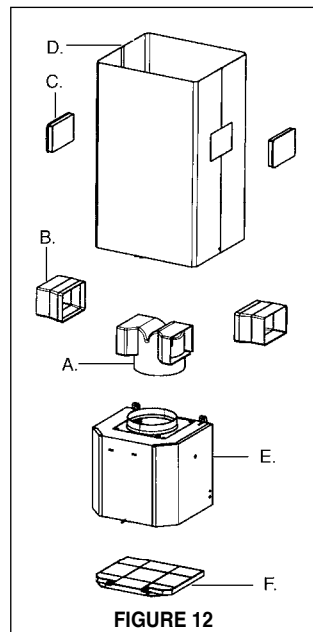
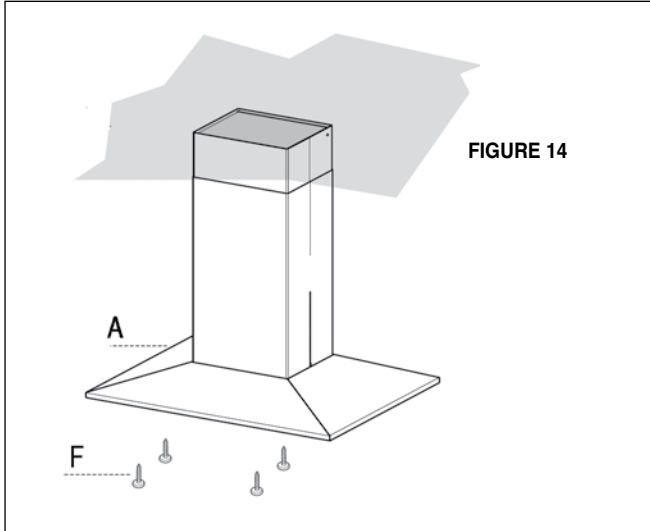
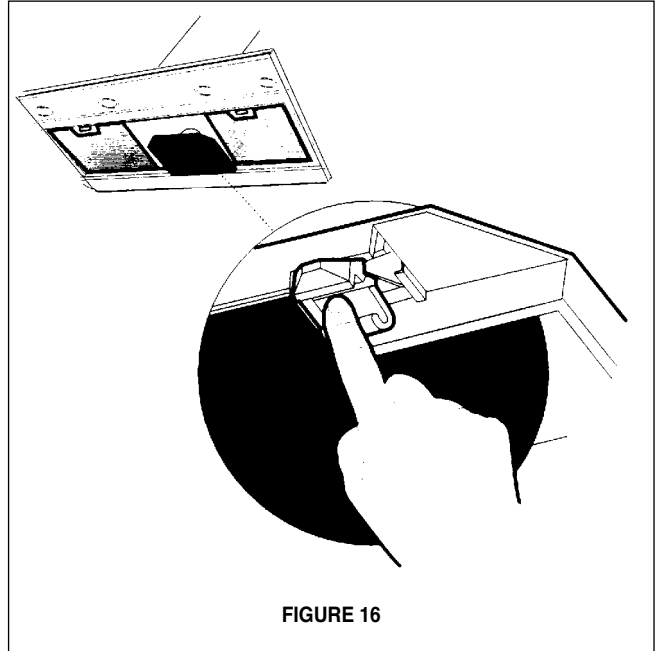

FIGURE 12
FIGURE 14
FIGURE 16
For ductless installations, line up the DUCTLESS DIVERTER EXTENSIONS HORIZONTAL (**B** in **FIGURE 12**) with the holes in the LOWER CHIMNEY COVER (**D** in **FIGURE 12**) and snap in the VENT GRIDS (**C** in **FIGURE 12**).
Ductless installations require a **Ductless Conversion Kit** whose components are pictured in **FIGURE 12**. Do not use the DAMPER (**M** in **FIGURE 1**) for ductless installations. The LOWER CHIMNEY COVER (**B** in **FIGURE 1**) should be discarded and replaced by the new one with holes from the **Ductless Conversion Kit** (**D** in **FIGURE 12**).
As indicated in **FIGURE 12**, place the DUCTLESS DIVERTER (**A**) over the exhaust opening of the EASY CUBE (**E**). Fit the DUCTLESS DIVERTER EXTENSIONS HORIZONTAL (**B**) into the DIVERTER (**A**).
4. From below, attach the CANOPY SECTION (A in FIGURE 12) to the assembled chimney support using the four bolts provided (F in FIGURE 14).
For ductless installations, install the CHARCOAL FILTER (F in FIGURE 12) behind the center grease filter opening by inserting and locking into place. See FIGURE 16